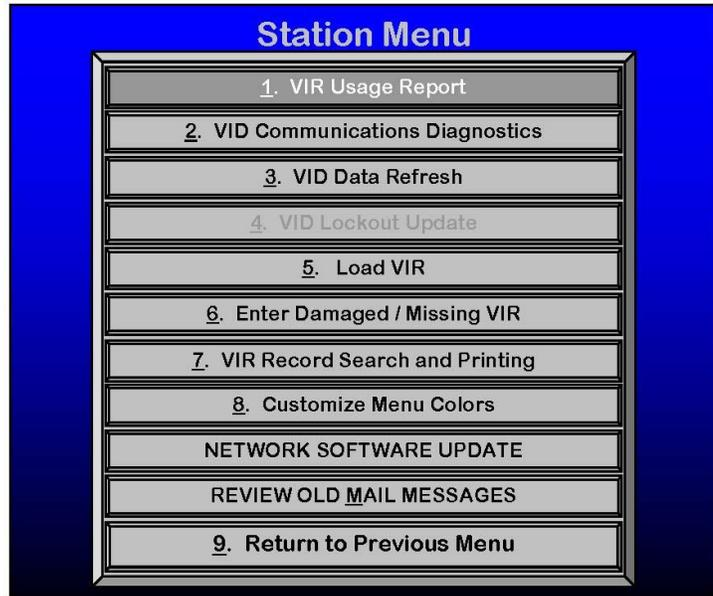

Figure 10 Station Menu
1. See Figure 10, this menu allows access to the VIR usage database and can track VIR usage for up to 91 days by entering a date range. This data includes the date, VIR number and vehicle VIN number.